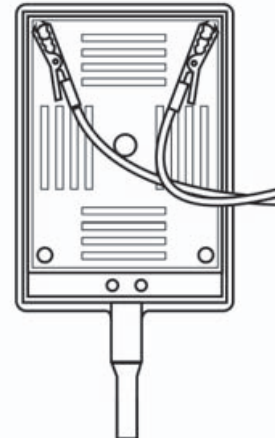

Figure 5-17 Transducer connector attachment
- b** Connect the red leads to the transducer connector as shown in Figure 5-17.